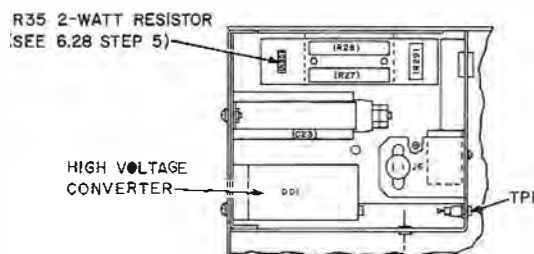

Fig. 5—High Voltage Compact—Cover Removed
- (1) Operate the ON/OFF switch on the front panel to the OFF position.
- (2) Remove fuse from the front panel.
- (3) Remove the screws and open the front panel.
- (4) Remove the screws from the high voltage compartment cover located in the upper left hand corner of the electrical equipment cabinet, and remove the cover. The high voltage compartment is illustrated in Fig. 5.